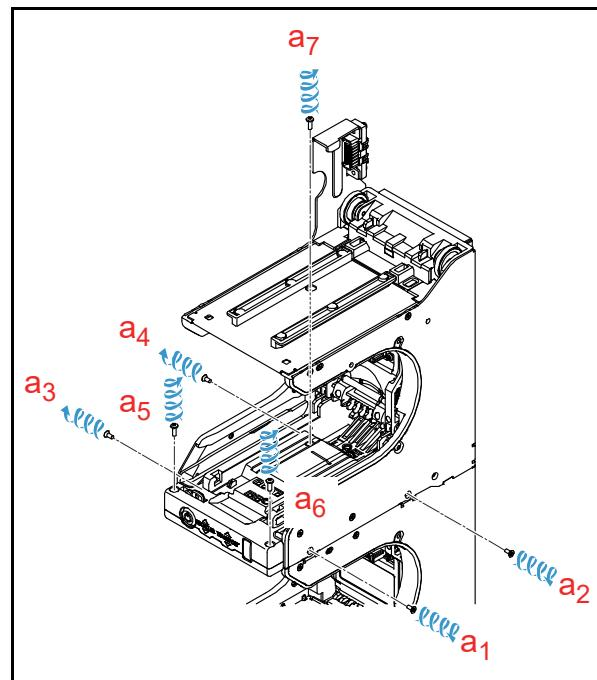

**Figure 4-4 RQ Transport Unit Removal 2**
3. Press down on the Transport Unit's Release Lever (Figure 4-4 a).
4. Pull down and remove the Transport Unit (Figure 4-4 b) as illustrated by the Arrow.